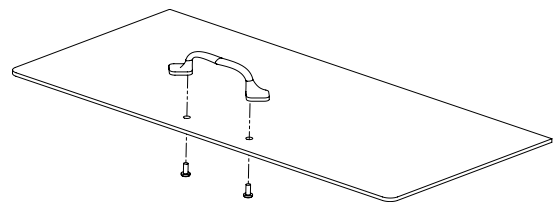

Figure 5: Hopper Door Handle Assembly
- Using a Phillips screwdriver, attach hopper handle to hopper door using the pre-drilled holes. See figure 5.